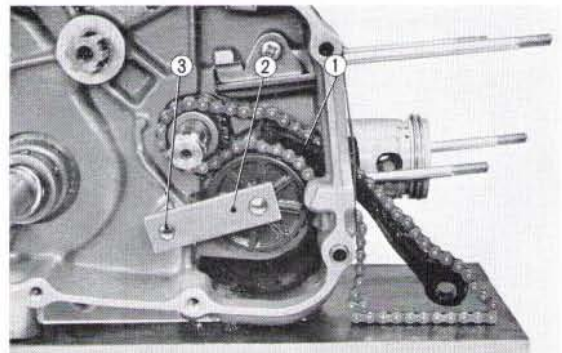

Fig. 2.48 ① Oil guide ② Tensioner arm
3. Tensioner arm may be removed by filing off the headed rivet. (Fig. 2.48)